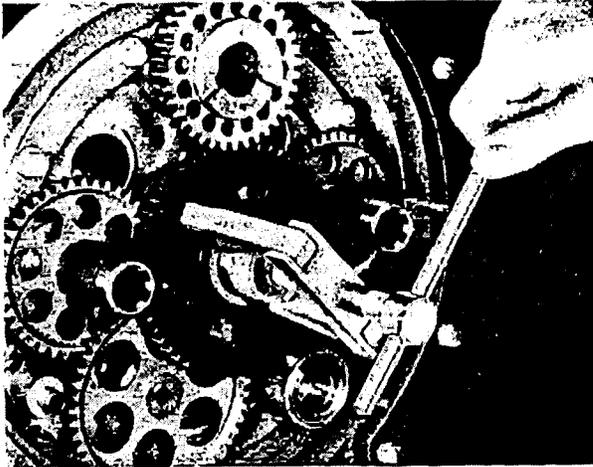

Figure 6 - Removing Crankshaft Cluster Gear
(3) Remove the Crankshaft Cluster Gear with Puller (Tool No. T-11000). Refer to Figure 6.